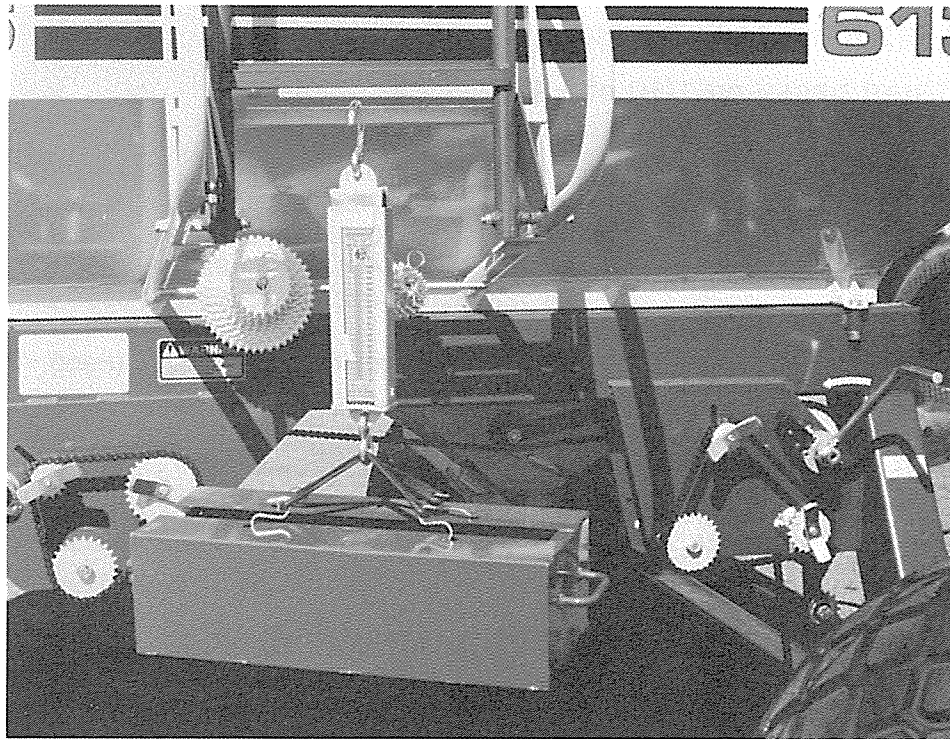

Figure 30
- (i) Weigh the sample by using tarp straps to hook rate check box to spring scale. (See Fig. 30).